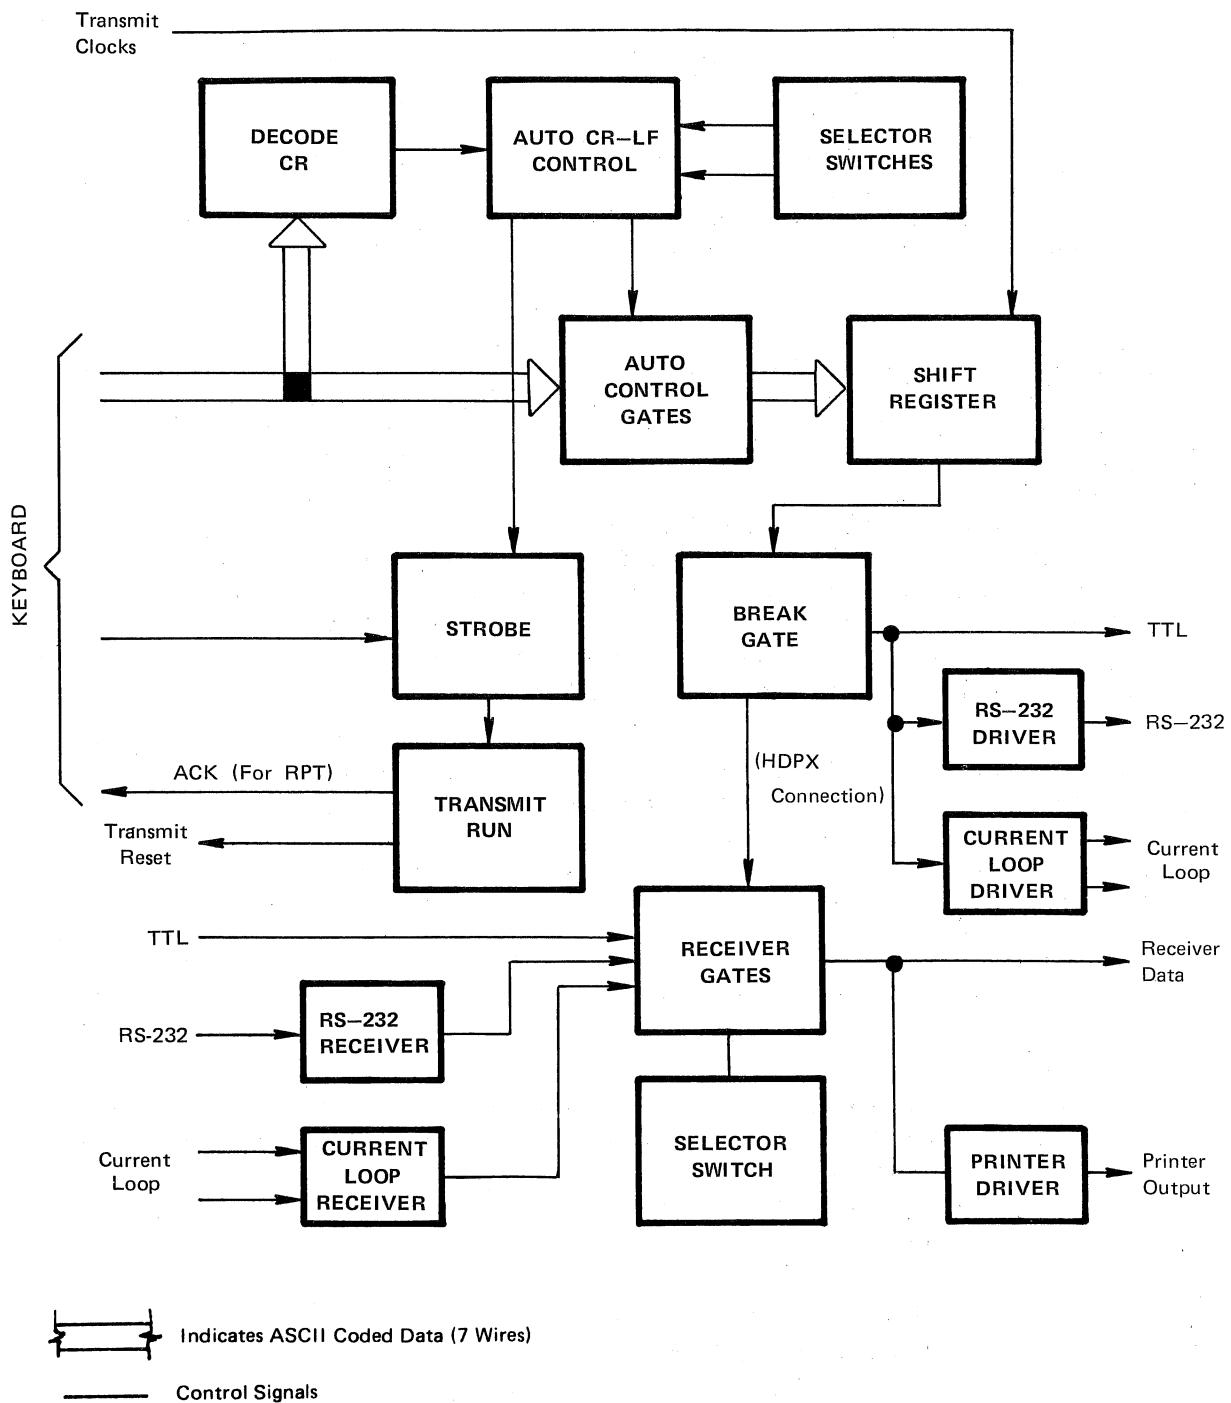

FIGURE 13 FUNCTIONAL DIAGRAM – TTY INTERFACE
**TTY INTERFACE – Board No. 6 See Functional Diagram, Figure 13,